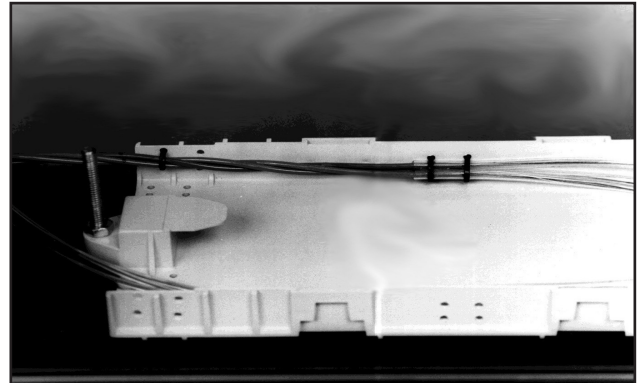

FIGURE 3- SECURE FIBERS TO TRANSITION ASSEMBLY
- 6.09 Using two of the tie wraps supplied with the Splice Tray(s), secure the fibers to the back wall of the Transition Assembly. (Figure 3).